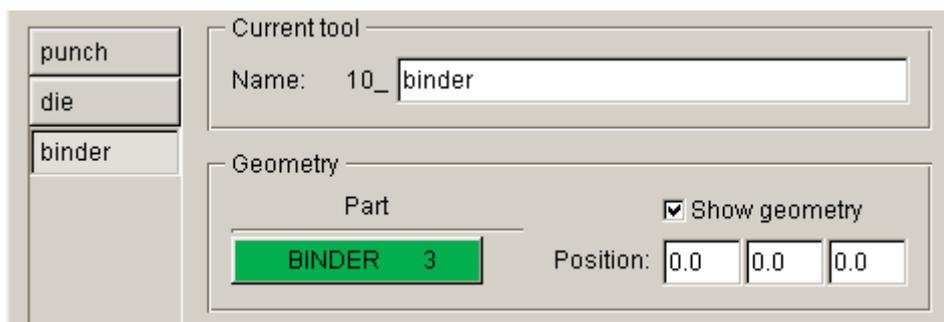

Figure 7.25 Binder definition interface
23. Click **Exit** button to return to tool definition interface. Now, you can observe the font color of **binder** is changed to BLACK. See Figure 7.25.